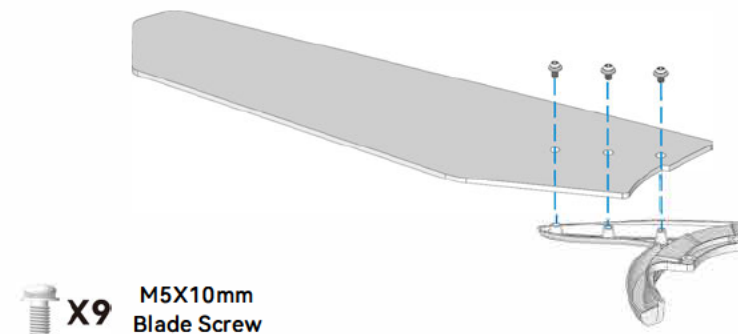

Fig. 1.1
1.1 Locate the 9 blade attachment screws included in the hardware pack. Use these screws to firmly attach each blade to the blade bracket, as demonstrated in Fig. 1.1.